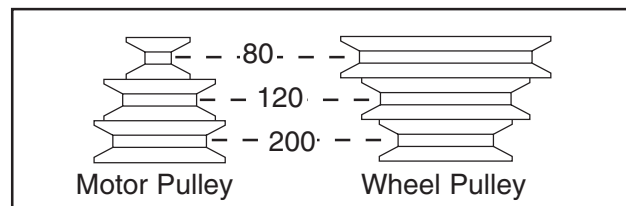

Figure 20. V-belt positions in FPM.
3. Slacken the V-belt and position it for the desired FPM (see **Figure 20**).